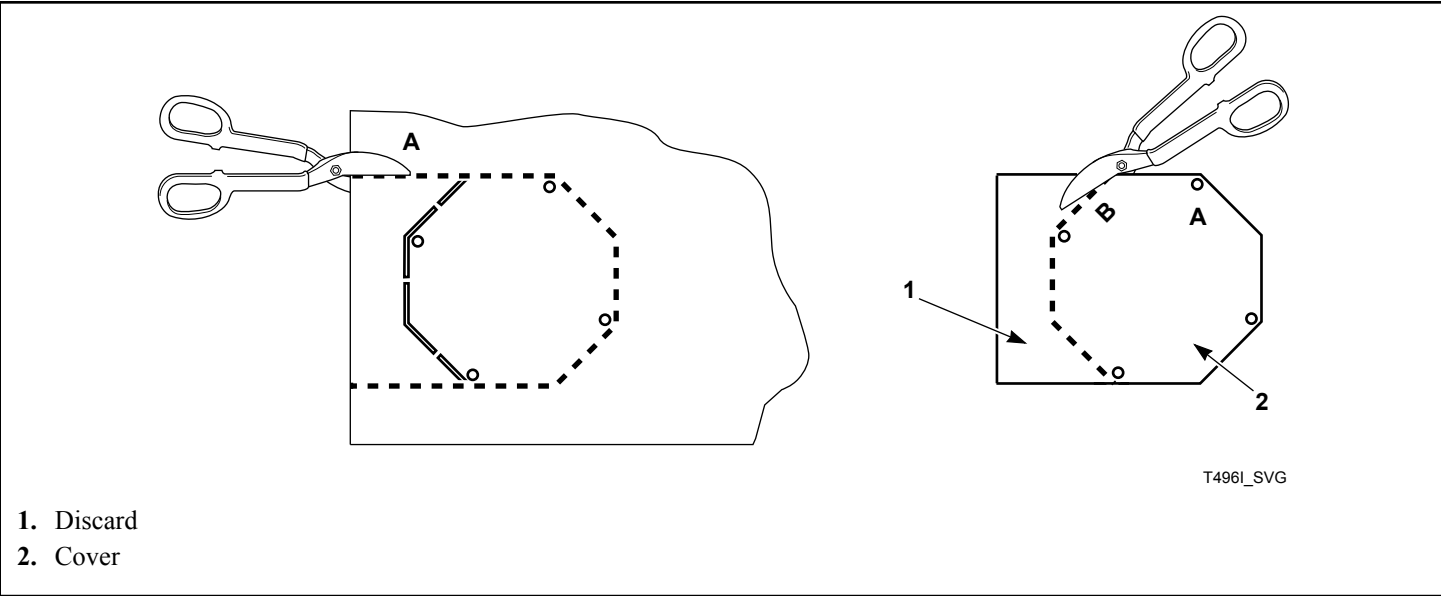

Figure 11
3. Cut out shape from belt guard cover. Refer to *Figure 11* .